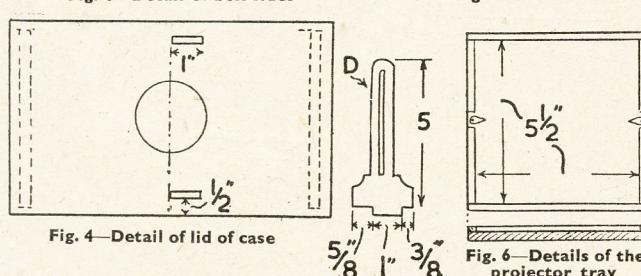

Fig. 4—Detail of lid of case
given at (D) in Fig. 4. These can be cut from $\frac{1}{4}$ in. fretwood. The mortise slots for their reception, to be cut in the lid, are marked off on one side of a line cutting across the middle of the lid, as will be seen.